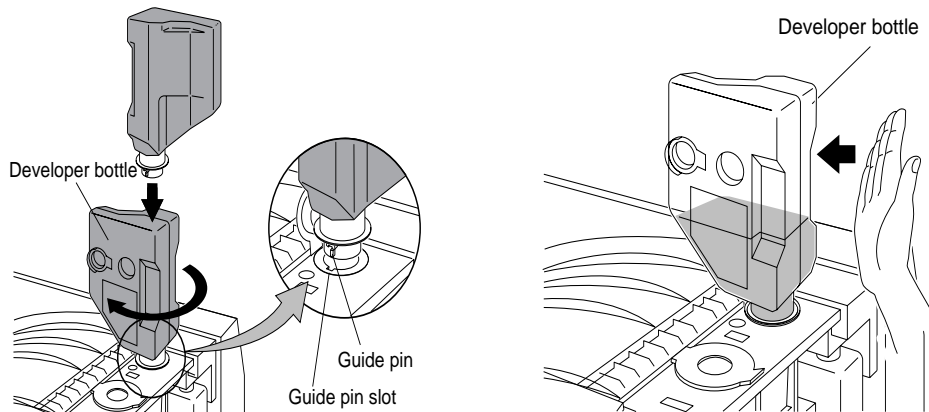

Figure 4-18 Filling the Developer and tapping the Developer Bottle
8. Line up the guide pins on the new developer bottle with the guide pin openings on the developer fill. Insert and turn the developer bottle clockwise 180° to start filling, as shown in Figure 4-18.
9. Gently tap the developer bottle to dislodge any remaining developer, as shown in Figure 4-18.